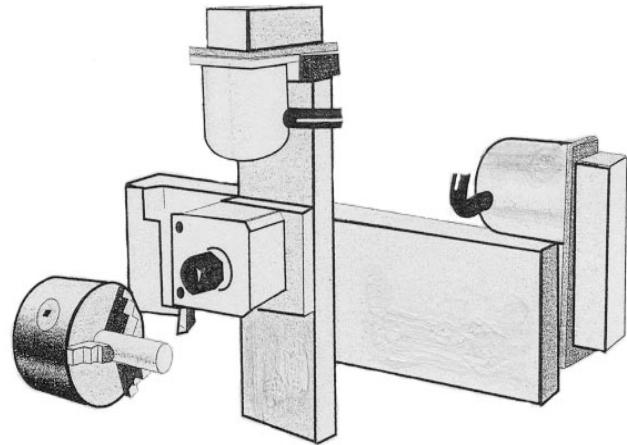

Fig. 7
- (a) (i) Name the type of lathe shown in Fig. 7.